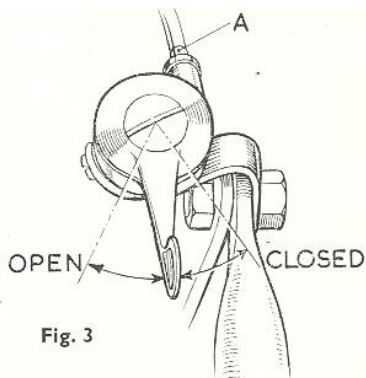
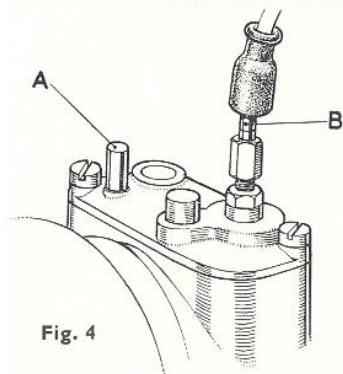
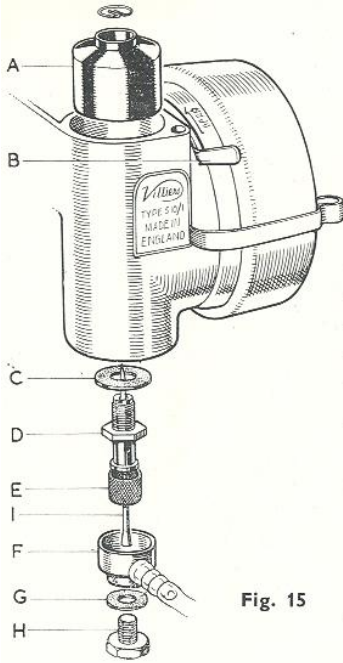

Fig. 3
Fig. 4
Fig. 15
3. Open throttle lever (Fig. 3) approximately to the halfway position. Close choke by depressing the choke lever (B, Fig. 15). Only in cold conditions may it be necessary to depress the carburetter tickler (A, Fig. 4).
1. Petrol tank empty or fuel filter (E, Fig. 15) at base of carburetter blocked. Remedies : Fill tank. With petrol turned off, remove and clean fuel filter. (To locate fuel gauze filter. See page 29.)
3. Mixture too rich due to use of tickler (A, Fig. 4), or to use of choke when warm. Remedy: Turn off petrol, open throttle wide and turn engine over slowly a few times with the recoil starter. Reset throttle lever turn on petrol and start engine.
Both ends of the throttle inner cable (A, Fig. 3) and (B, Fig. 4). Expose these by drawing back the outer cable a little way by hand.
To locate fuel gauze filter (E, Fig. 15)
Undo the banjo union bolt (H, Fig. 15) located under the carburettor and remove fibre washer (G, Fig. 15) banjo union (F, Fig. 15), and fuel gauze filter (E, Fig. 15).